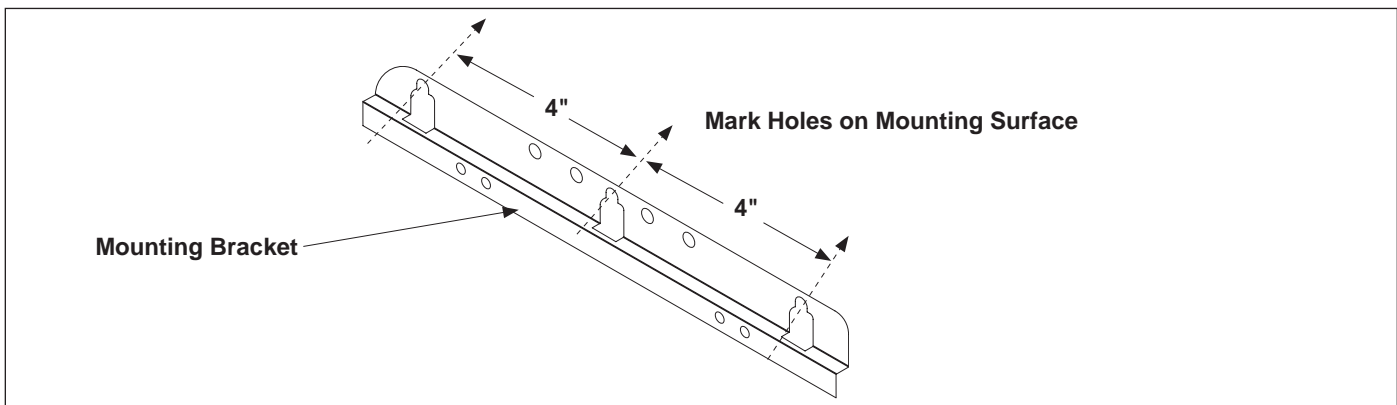

Figure 7. Mark Holes using Power Center Mounting Bracket
3. Using the top mounting bracket as a guide, mark three (3) holes on the mounting surface where the power center will ultimately reside (see Figure 7). Drill the holes in the mounting surface.